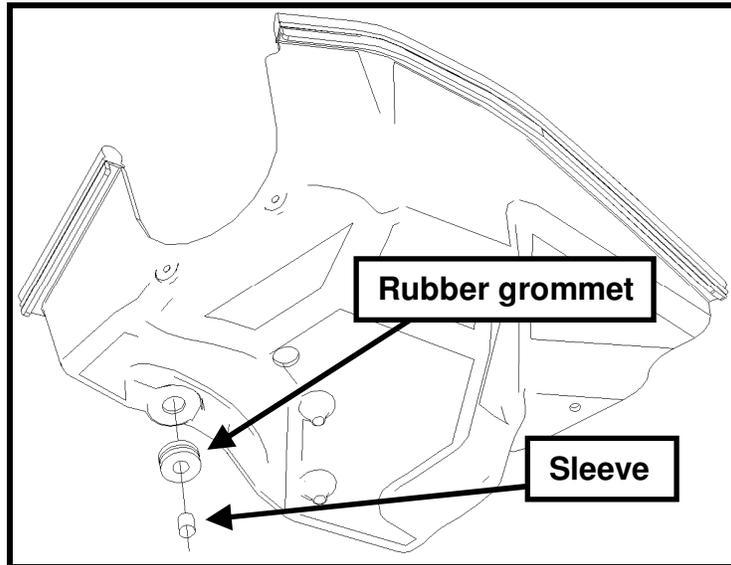

Fig. 7
**NOTE:** Remove the metal sleeve to ease grommet insertion into the airbox. Once the rubber grommet is firmly seated in position, re-install the metal sleeve into the grommet (See Fig. 7).